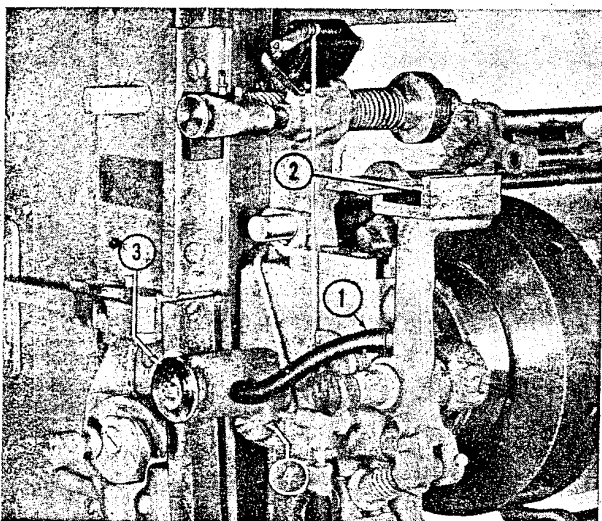

Figure 37—Hose Connection to Left Transfer Table Lever
(3) Disconnect short hose (connecting left transfer table lever to auto stop suction cylinder—left side of press) from lever nipple. (See (1) figure 37.)
(4) Connect opposite end of special hose to lever nipple, remove washer, (2) figure 37, in counter-sunk hole in top of transfer table lever and then start press motor, applying blast to air line in lever. Allow motor to run until lever air line is clean.
(5) Replace washer, disconnect blast hose from lever, and reconnect hose from auto stop suction cylinder to left transfer table lever.
(6) Remove vacuum hose from right side transfer table lever, connect blast hose and blow out air line in this lever after removing lever washer.
(7) Replace washer and reconnect vacuum hose to lever.
(8) With transfer table placed in brackets at top of press remove set screw at each end of transfer table frame.
(9) Start motor and apply air blast through vacuum holes along transfer table edge.
(10) After these holes are blown clean, cover holes with strip of gummed paper. Apply air blast to holes from which set screws were removed. While applying air blast, hold finger over table vacuum inlet hole adjacent to hole to which air blast is being applied. If air line in table is badly clogged, run a length of thin wire through line and then repeat blowing operation.
Auto-stop piston not operating freely due to excessive or gummy oil. Vent hole in auto-stop cylinder is clogged.	Check that auto-stop piston, (3) figure 37, moves freely. Check that vent hole is not clogged. See (4) figure 37.
Leak in hose between auto-stop cylinder and transfer table lever.	Check for broken hose or leaky connection. See (1) figure 37.